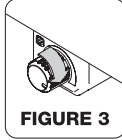

FIGURE 3
2. If using the remote volume control, ensure that it is connected to the main unit with its knob turned all the UP (Figure 3).